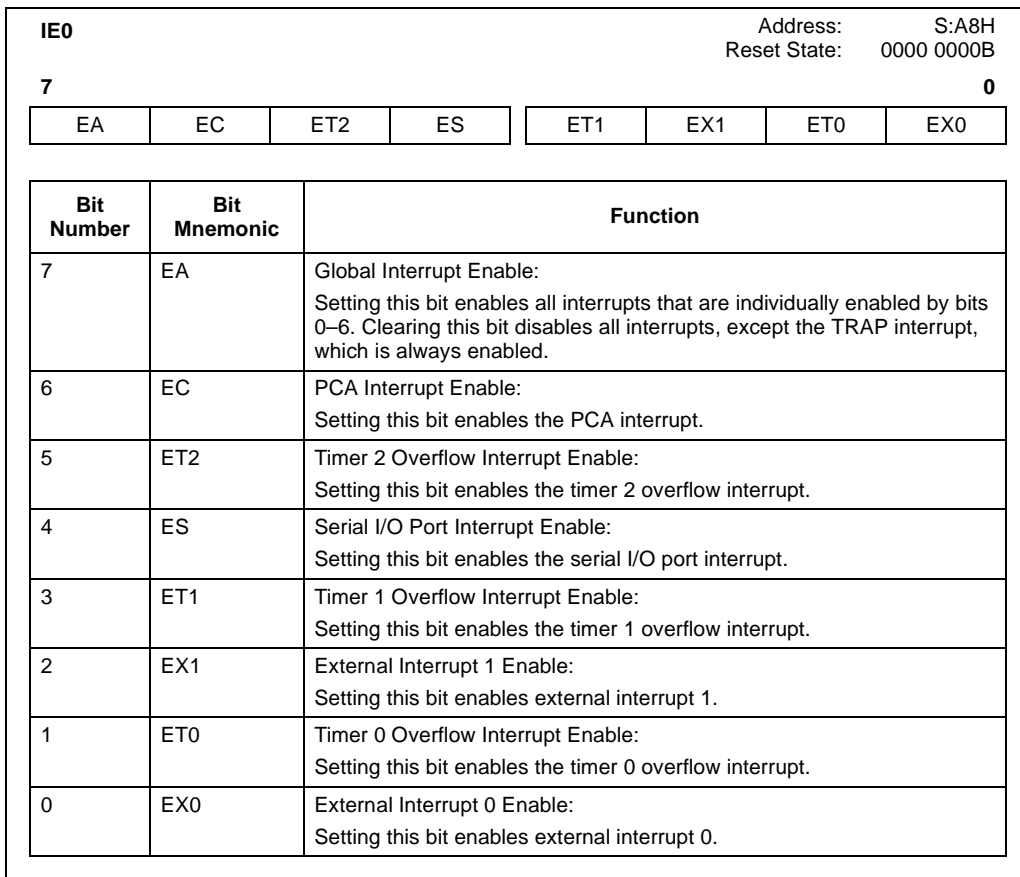

Figure 6-2. Interrupt Enable Register
External interrupts INT0# and INT1# (INTx#) pins may each be programmed to be level-triggered or edge-triggered, dependent upon bits IT0 and IT1 in the TCON register (see Figure 8-6 on page 8-8). If $ITx = 0$, INTx# is triggered by a detected low at the pin. If $ITx = 1$, INTx# is negative-edge triggered. External interrupts are enabled with bits EX0 and EX1 (EXx) in the IE0 register (see Figure 6-2, “Interrupt Enable Register”). Events on the external interrupt pins set the interrupt request flags IEx in TCON. These request bits are cleared by hardware vectors to service routines only if the interrupt is negative-edge triggered. If the interrupt is level-triggered, the interrupt service routine must clear the request bit. External hardware must deassert INTx# before the service routine completes, or an additional interrupt is requested. External interrupt pins must be deasserted for at least four state times prior to a request.
Two timer-interrupt request bits TF0 and TF1 (see TCON register, Figure 8-6 on page 8-8) are set by timer overflow (the exception is Timer 0 in Mode 3, see Figure 8-4 on page 8-6). When a timer interrupt is generated, the bit is cleared by an on-chip hardware vector to an interrupt service routine. Timer interrupts are enabled by bits ET0, ET1, and ET2 in the IE0 register (see Figure 6-2, "Interrupt Enable Register").
Serial port interrupts are generated by the logical OR of bits RI and TI in the SCON register (see Figure 10-2 on page 10-3). Neither flag is cleared by a hardware vector to the service routine. The service routine resolves RI or TI interrupt generation and clears the serial port request flag. The serial port interrupt is enabled by bit ES in the IE0 register (see Figure 6-2).
Each interrupt source (with the exception of TRAP) may be individually enabled or disabled by the appropriate interrupt enable bit in the IE0 register at S:A8H (see Figure 6-2). Note IE0 also contains a global disable bit (EA). If EA is set, interrupts are individually enabled or disabled by bits in IE0. If EA is clear, all interrupts are disabled.